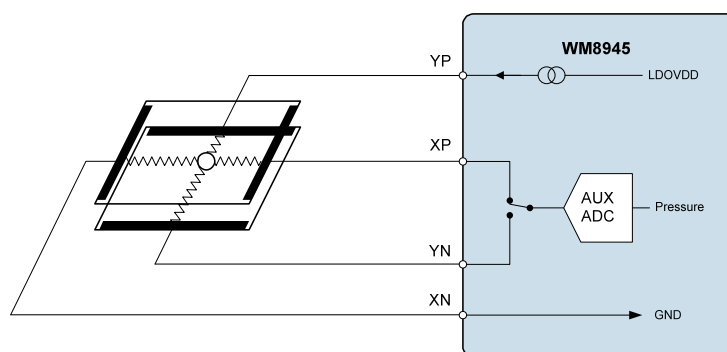

Figure 37 Z-axis (Pressure) Touch Panel Measurement
The configuration is illustrated in Figure 37. In this example, a constant current flows from the Top (YP) connection to the Left (XN) connection. The Right (XP) and Bottom (YN) points are measured in turn, and the difference,  $V_X - V_Y$  is equal to  $I_P \times R_C$ , where  $I_P$  is the current applied and  $R_C$  is the resistance between the plates. The smaller the measured resistance, the greater the pressure being applied.